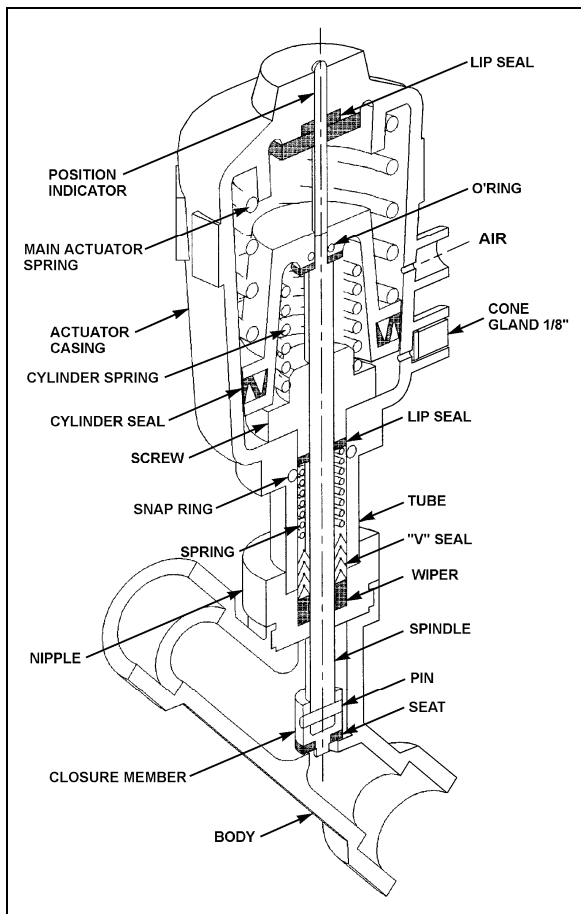

FIGURE 49: PASSENGER'S UNIT HOT WATER PNEUMATIC VALVE
2. The water valve need not be removed from the line. Unscrew nipple, the actuator casing, tube, spindle and closure member can be removed (figure 49).
2. Tighten the nipple in place in the body cavity as per Figure 49. Fasten pilot solenoid vane to the pneumatic water valve. Reconnect air supply pressure and electrical current to the pilot solenoid valve.